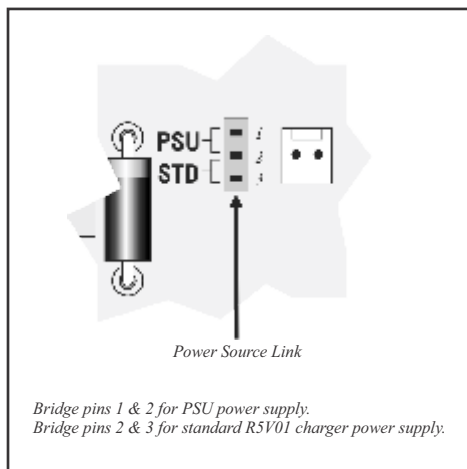

Figure 24 CP75 Power Source Link
3. Check that the **power source link is in the STD position** when using a standard CP84ER5V01 charger, or **PSU position** for PSU power supply driven installations. See Fig. 24